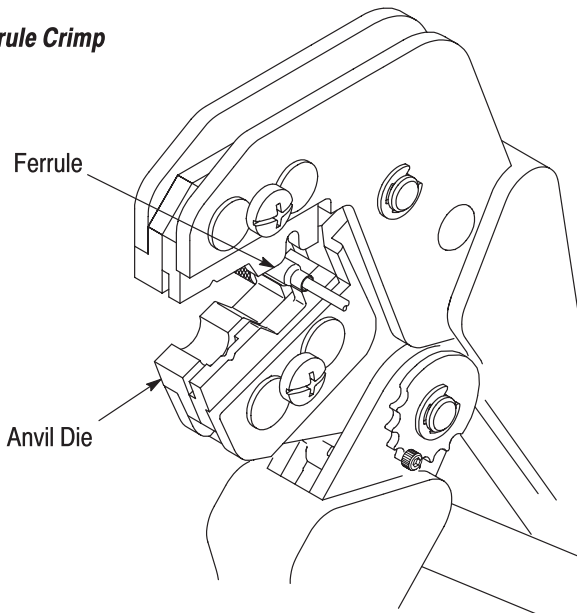

Figure 4
**4.2. Ferrule (Figure 4)**
3. Place the ferrule in the crimping chamber on the anvil die so that the shoulder of the connector body is against the edge of the die. Refer to Figure 4.